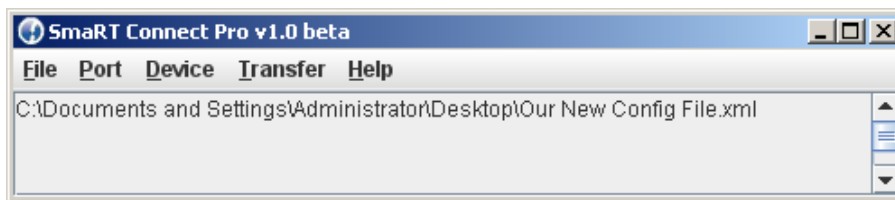

Figure 21
3. Click the **Open** button. The SmaRT Connect window opens with the message shown in Figure 21.